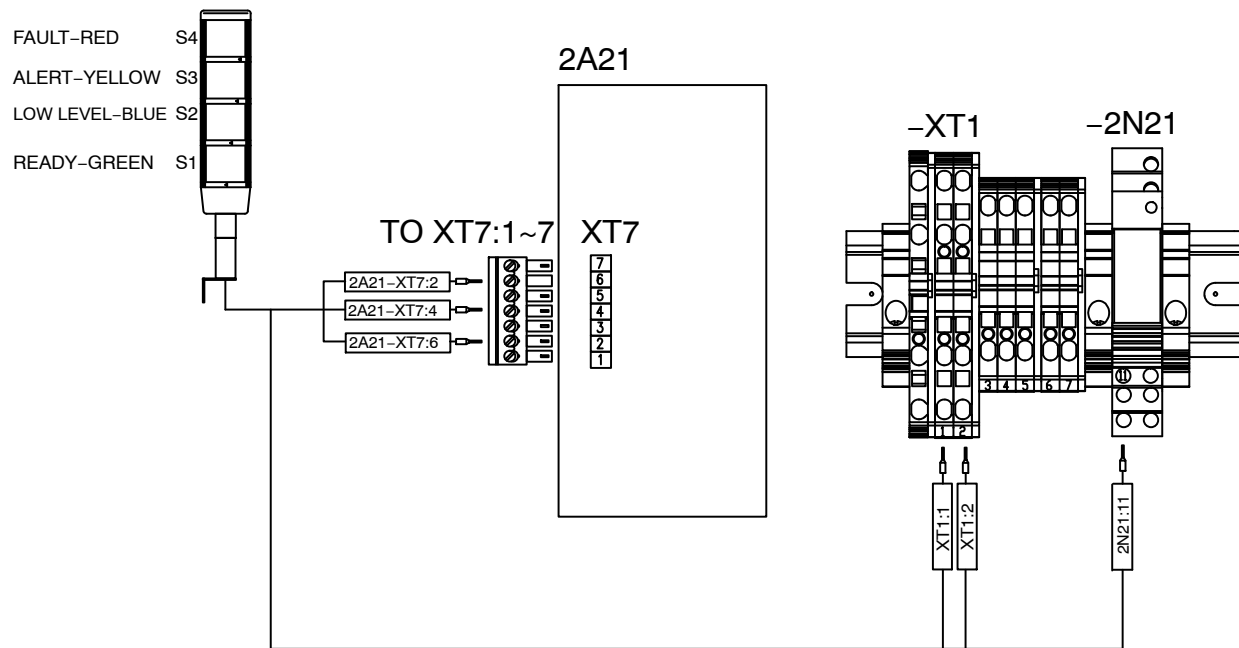

Figure 7-26 Light tower wiring
3. Wire the light tower. Refer to figure 7-26.